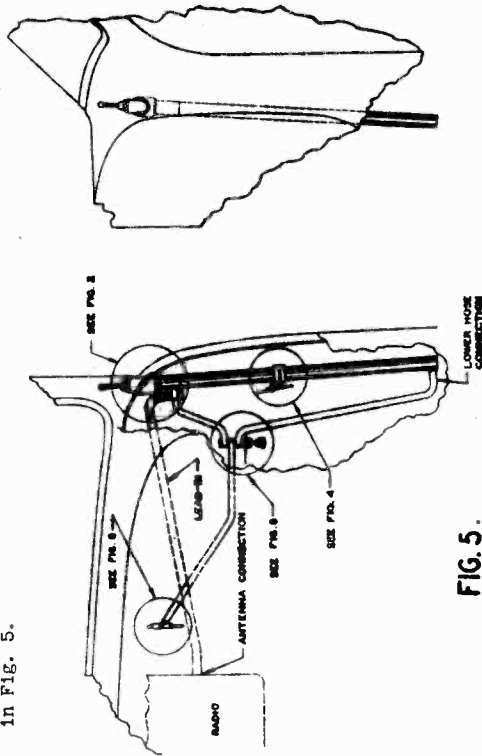

FIG. 5
- Assemble lower hose connection to the bottom of the antenna, as shown in Fig. 5.
10. Attach the 36" length of hose to the lower hose connection on the antenna, as shown in Fig. 5.